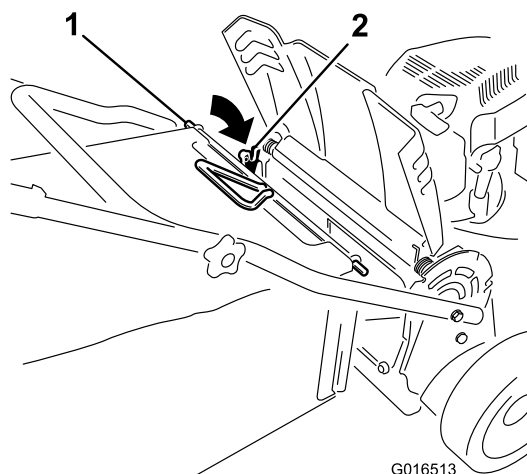

Figure 26
3. Install the bag rod into the notches at the base of the handle and rock the bag back and forth to ensure that the rod is seated at the bottom of both notches; refer to Figure 26.